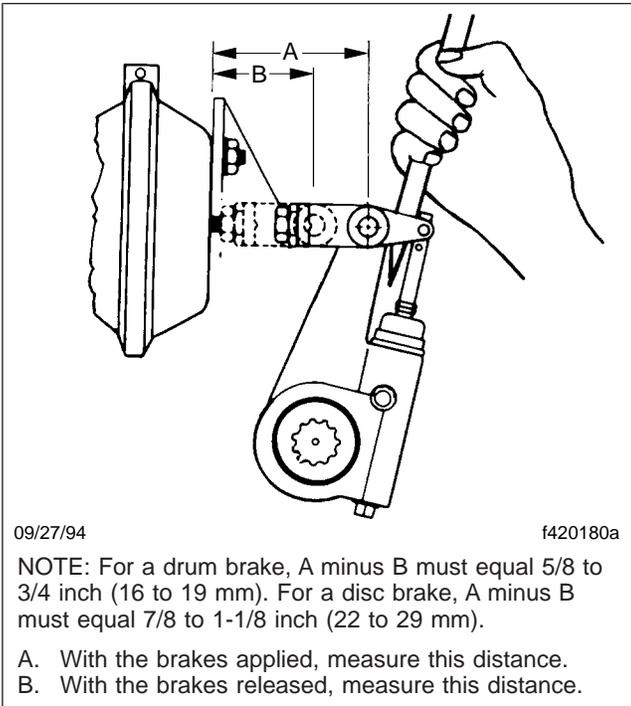

Fig. 5, Measuring Free-Stroke
- 3.1 With the brakes fully released, measure the distance from the bottom of the brake chamber to the center of the large clevis pin. See **Fig. 5**, Ref. A.
- 3.2 Use a pry bar to move the slack adjuster, applying the brakes. Again, measure the distance from the bottom of the brake chamber to the center of the large clevis pin. See **Fig. 5**, Ref. B.
- 4.1 With the brakes fully released, measure the distance from the bottom of the brake chamber to the center of the large clevis pin. See **Fig. 5**, Ref. A.
- 4.2 Build air pressure to 100 psi (690 kPa). Shut down the engine. Fully apply the brakes, then measure the distance from the bottom of the brake chamber to the center of the large clevis pin. See **Fig. 5**, Ref. B. The difference between the measurements is the brake chamber stroke.